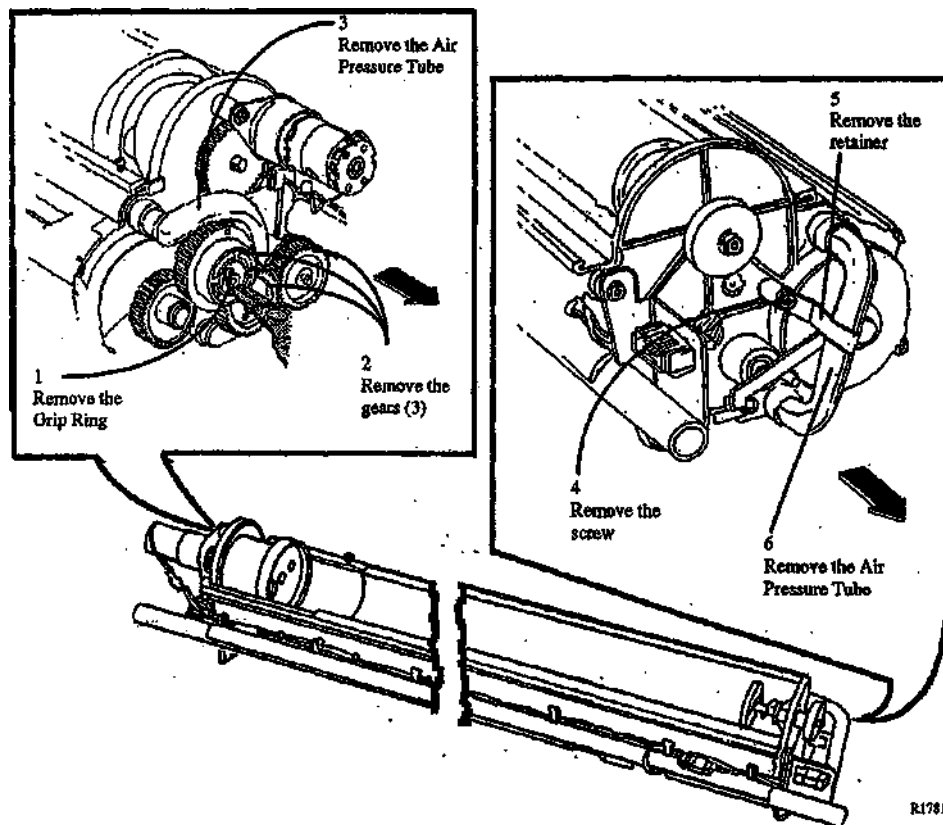

Figure 1. Removing the Air Pressure Tubes
2. (Figure 1): Remove the Air Pressure Tubes.